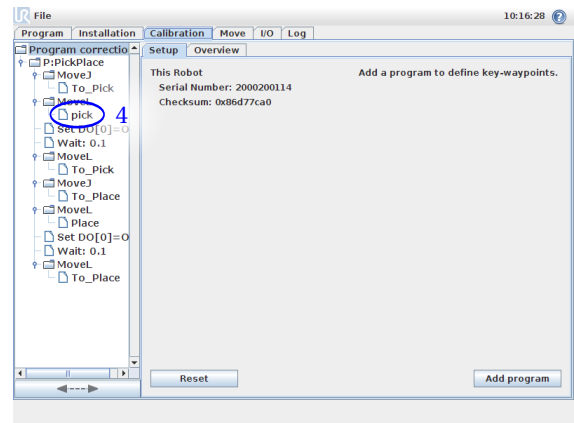

Figure 2.5: Select one of the key-waypoints. In this case waypoint named "pick"
- (4) Select one of the decided key-waypoints in the program. The waypoint called "pick" is selected in figure 2.5.